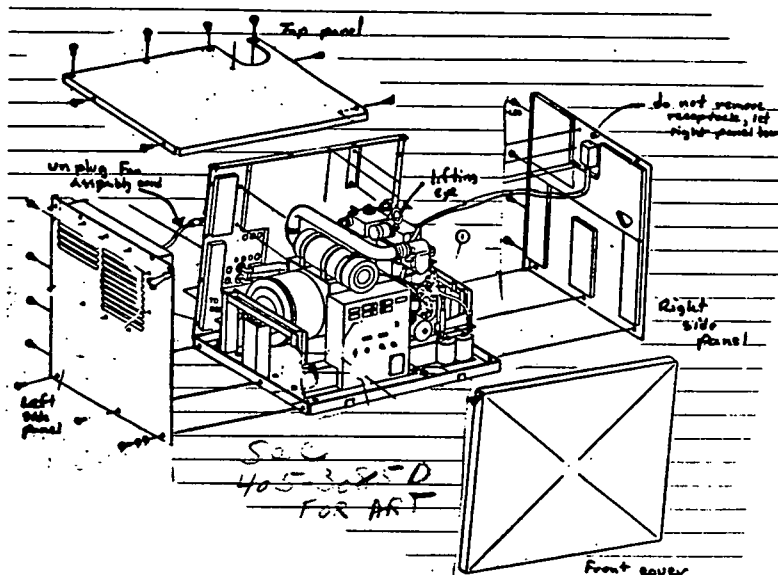

FIGURE 12. Compartment Disassembly
1. Remove the compartment front cover, top compartment panel, left and right side panels in the sequence listed as shown in Figure 12.